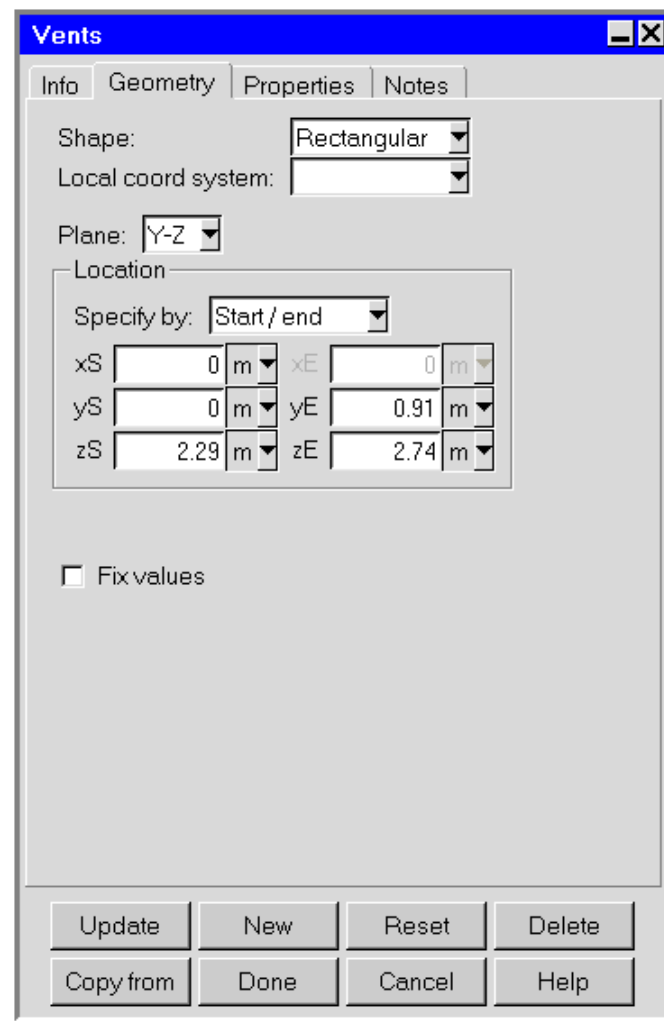

Figure 10.5.1: The Vents Panel (Geometry Tab)
To include a vent in your Airpak model, click on the  button in the Object creation toolbar and then click on the  button to open the Vents panel, shown in Figures 10.5.1 – 10.5.3.
4. In the **Geometry** tab, specify the geometry, position, and size of the vent (Figure 10.5.1). There are four different kinds of geometry available for vents in the **Shape** drop-down list. The inputs for these geometries are described in Section 7.4.4. See Section 7.3.6 for details on resizing an object and Section 7.3.7 for details on repositioning an object.